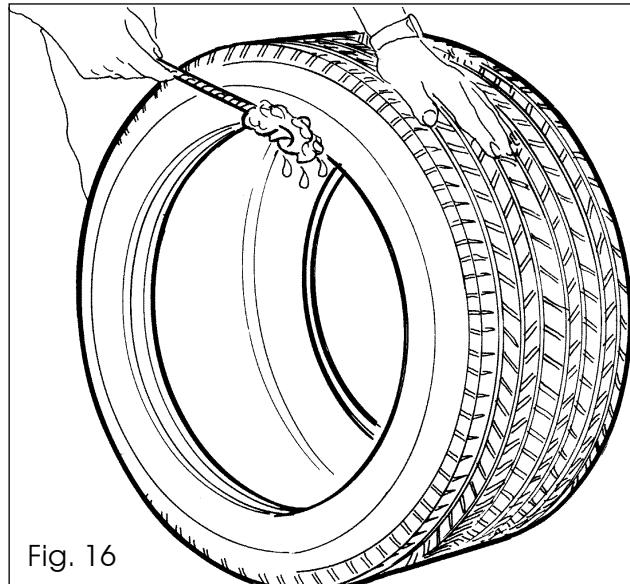

Fig. 16
- ❑ Apply a liberal amount of tire manufacturer approved rubber lubricant to both beads before attempting the mounting operation (Fig.16). Lubricated beads require much less force to mount/seat and are protected against torsional damage.